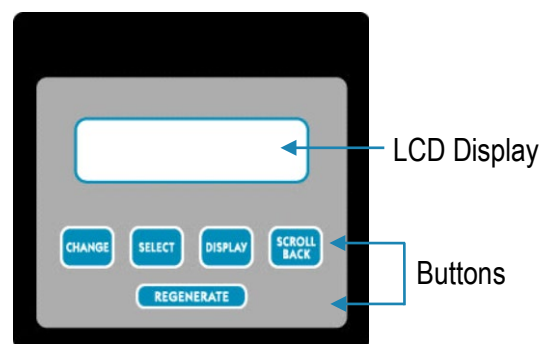

Figure 10: Five-Button Controller
- D. Open a cold water tap and allow the appliance to flush for 20 minutes or until approximately 72 gallons (275 L) have passed through the appliance. This procedure is required to meet NSF compliance. Verify the flow rate on the controller, which indicates water flow. (See Figure 10)